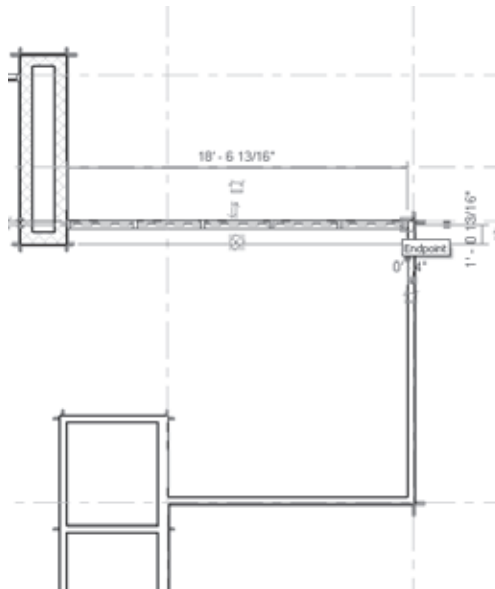

Figure 4.87
4. Add a curtain wall on the other side of the fireplace as well, as shown in Figure 4.87. Set this wall's height to Level 2.